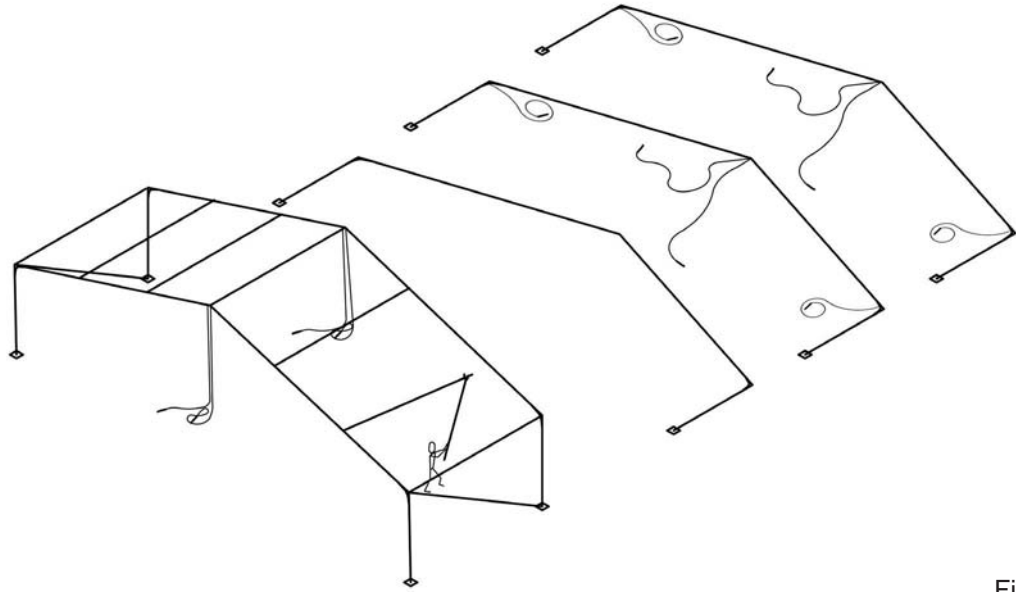

Figure 3.3b
3.3.3 Using the same technique with the narrow cradle purlin fork (supplied in the installation kit), install the remaining roof purlins, making sure that the curved hook on the roof purlin is properly engaged in the rafter bracket before swinging the opposite end in place as shown in Figure 3.3b.